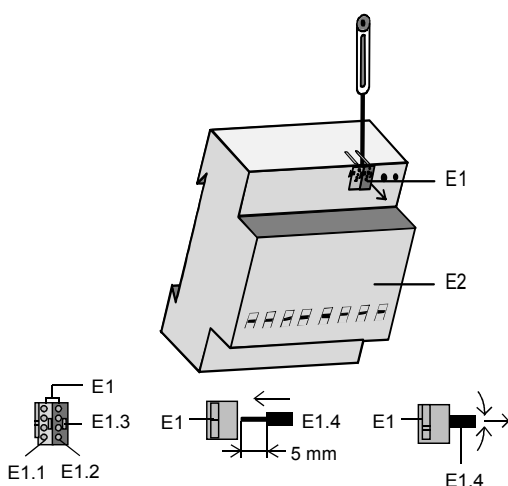

Figure 4: Connecting, disconnecting the bus cable
**5WG1 526-1EB02**Removing the bus terminal (Figure 4)
Plugging in the bus terminal (Figure 4)
Connecting the bus cable (Figure 4)
Disconnecting the bus cable (Figure 4)